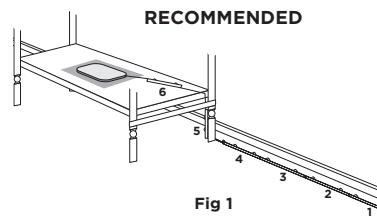

Fig 1
- 1) Use the crib leg by the wall closest to the Nursery Unit (**fig 1**). In cases where the Nursery Unit is across the room, use the leg closest to the Nursery Unit to position the covered wire (**fig 2**). It is always preferable that the covered cord run along a wall.